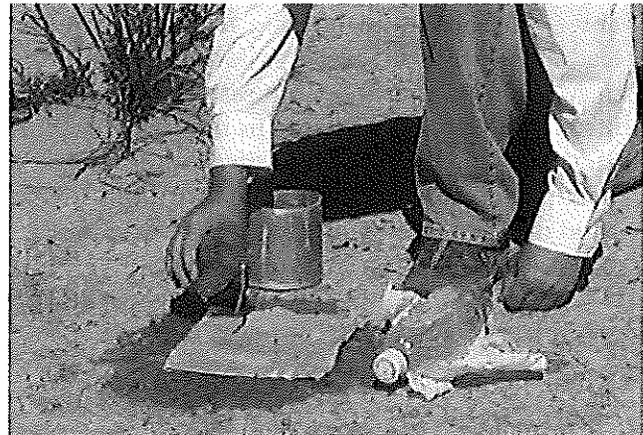

Figure 8.3. Pre-wet the soil to a 4 cm depth.
4. Pre-wet the soil to a depth of at least 4 cm (1.5 in) (Fig. 8.3).